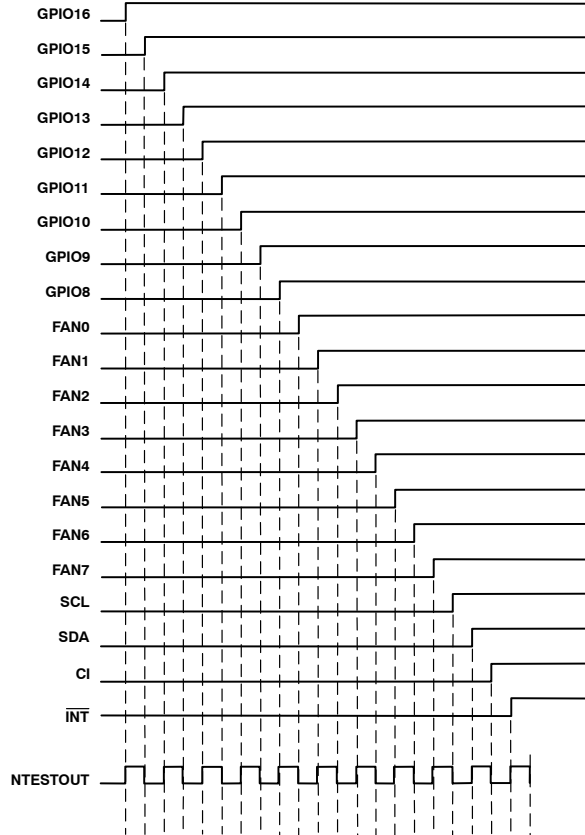

Figure 56. NAND Tree Test Taking Inputs High in Turn
1. Start with all inputs low and take them high in turn, starting with the input nearest to NTEST_OUT (GPIO16/ $\overline{\text{THERM}}$) and working back up the tree to the input furthest from NTEST_OUT ($\overline{\text{INT}}$). This should give the characteristic output pattern shown in Figure 56, with NTESTOUT toggling each time an input is taken high.